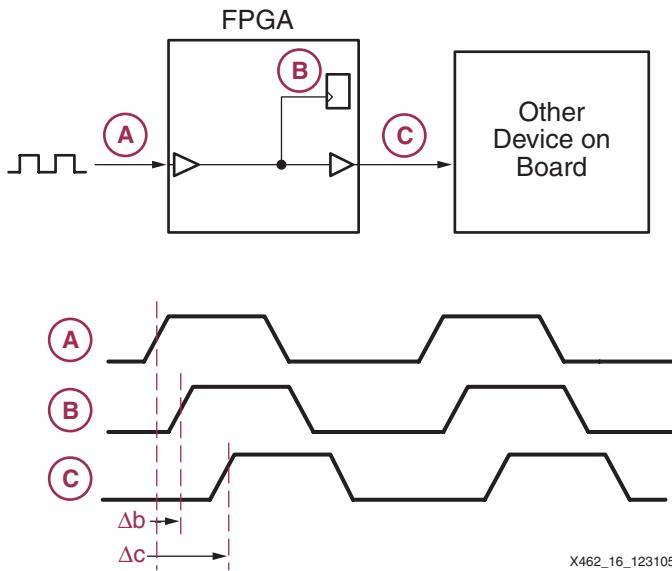
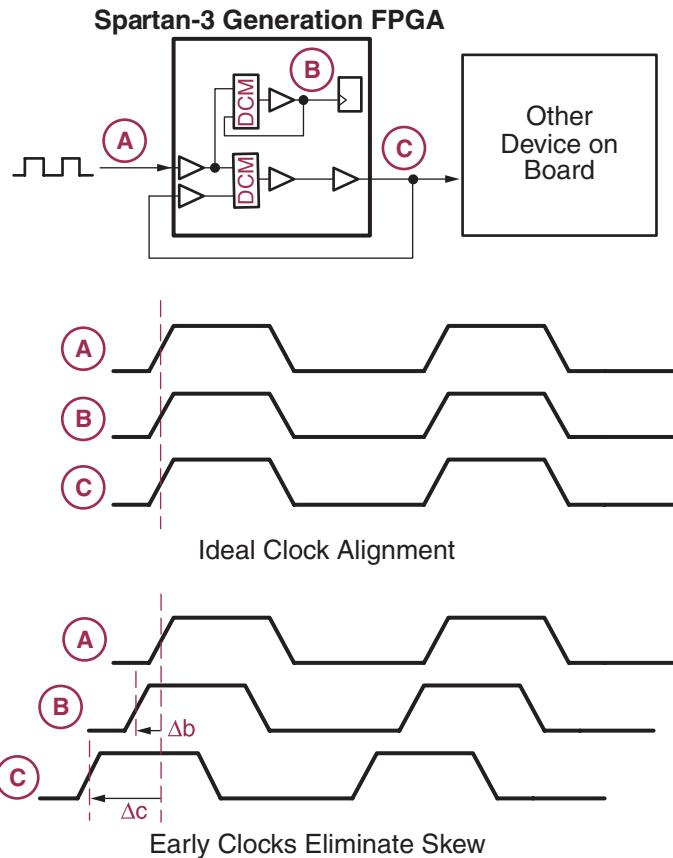

Figure 3-15: Clock Skew Inherently Exists in Every Synchronous System
Figure 3-16: **Eliminating Clock Skew in a Spartan-3 Generation FPGA Design**
Figure 3-15 illustrates clock skew in an example system. A clock source drives the clock input to an FPGA. The clock enters through an input pin on the FPGA, is distributed within the FPGA using the internal low-skew global clock network, and arrives at a flip-flop within the FPGA. Each element in the clock path delays the arrival of the clock edge at the flip-flop. Consequently, the clock input at the flip-flop—Point (B)—is delayed, or skewed compared to the original clock source at Point (A). In this example, this clock skew or difference in arrival time for this path is called Δb .
Figure 3-16 shows the same example design as Figure 3-15, except this time implemented in a Spartan-3 Generation FPGA. Two DCMs eliminate the clock skew: one DCM eliminates the skew for clocked items within the FPGA, the other DCM eliminates the skew when clocking the other device on the board. The result is practically ideal alignment between the clock at Points (A), (B), and (C)!
How is clock skew elimination accomplished? Remember, clock skew is caused by the delay in the clock path. In Figure 3-16, the clock at Point (B) was skewed by Δb and the clock at Point (C) was skewed by Δc . What if there was a way to provide Point (B) with an early version of the clock, advanced by Δb and a way to provide Point (C) with an early version of the clock, advanced by Δc ? The result would be that all clocks would arrive at their destinations with perfect clock edge alignment. Such perfect alignment reduces setup times, shortens clock-to-output delays, and increases overall system performance.
Instead of attempting to determine the Δb and Δc delays in advance, the Spartan-3 DCM employs a DLL that constantly monitors the delay via a feedback loop, as shown in Figure 3-16. In this particular example, two DCMs are required—one to compensate for the clock skew to internal signals and another to compensate for the skew to external devices, each with their own clock feedback loop. The DLL constantly adapts to subtle changes caused by temperature and voltage.